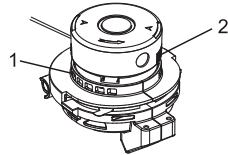
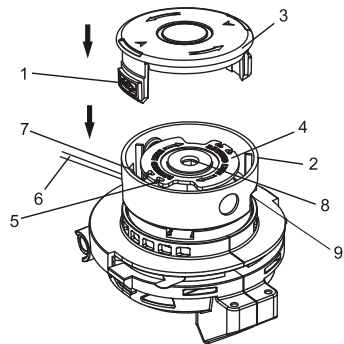
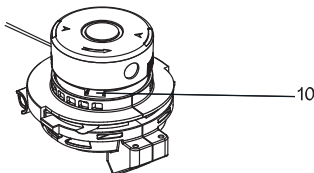

Fig. 10
Fig. 13
Fig. 14
1. Press the spool locking buttons (1) & (2) on each side of the spool (Fig.10).
2. Pull the loose end of the trimmer line out of the retaining slot (5) in the spool (Fig.13).
4. Thread the loose end of the trimmer line (6) through the hole (7) in the spool housing (2).
5. While holding, pull slightly to tighten the line, and then slide it into the spindle (8) until it bottoms out.
6. Once the replacement spool is fully inserted into the spool housing, replace the spool cap (3) by inserting the locking buttons (1) into the spool housing.
7. Press the spool cap fully into the spool housing until the locking buttons "click" into the matching holes (9) in the spool housing.
8. When the new trimmer line spool is installed, approximately 3" /7.6 cm of trimmer line should be exposed beyond the spool housing. If it is too long, cut it to length with scissors. If it is too short, press the line release button (10) on the trimmer line housing and gently pull on the exposed trimmer line (Fig. 14).
Press the line release button (10) on the trimmer line housing and gently pull on the exposed trimmer line until 3" /7.6 cm of line is exposed beyond the spool housing (Fig. 14).
Remove the spool from the spool housing, unwind approximately 3" /7.6 cm of line and reinstall the spool (Fig.10 through Fig. 14).
Remove the spool from the spool housing, unwind all the trimmer line from the spool and rewind the trimmer line onto the spool (Fig.10 through Fig. 14).
- b) Carefully wind the trimmer line onto the spool evenly to avoid overlapping wraps that will cause further jamming (Fig.13).